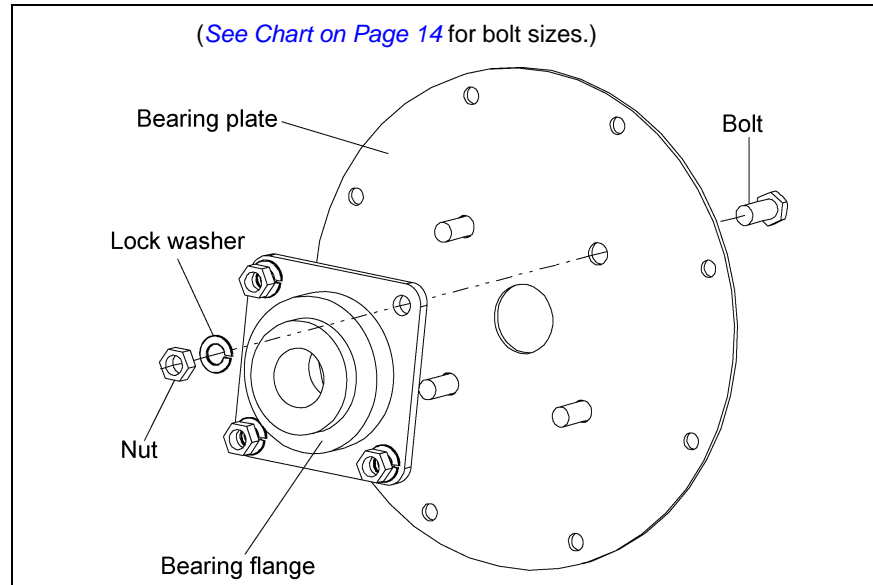

Figure 4B
2. Secure bearing to bearing plate using appropriate bolts, lock washers, and nuts. (See Chart below and Figure 4B on Page 15.)